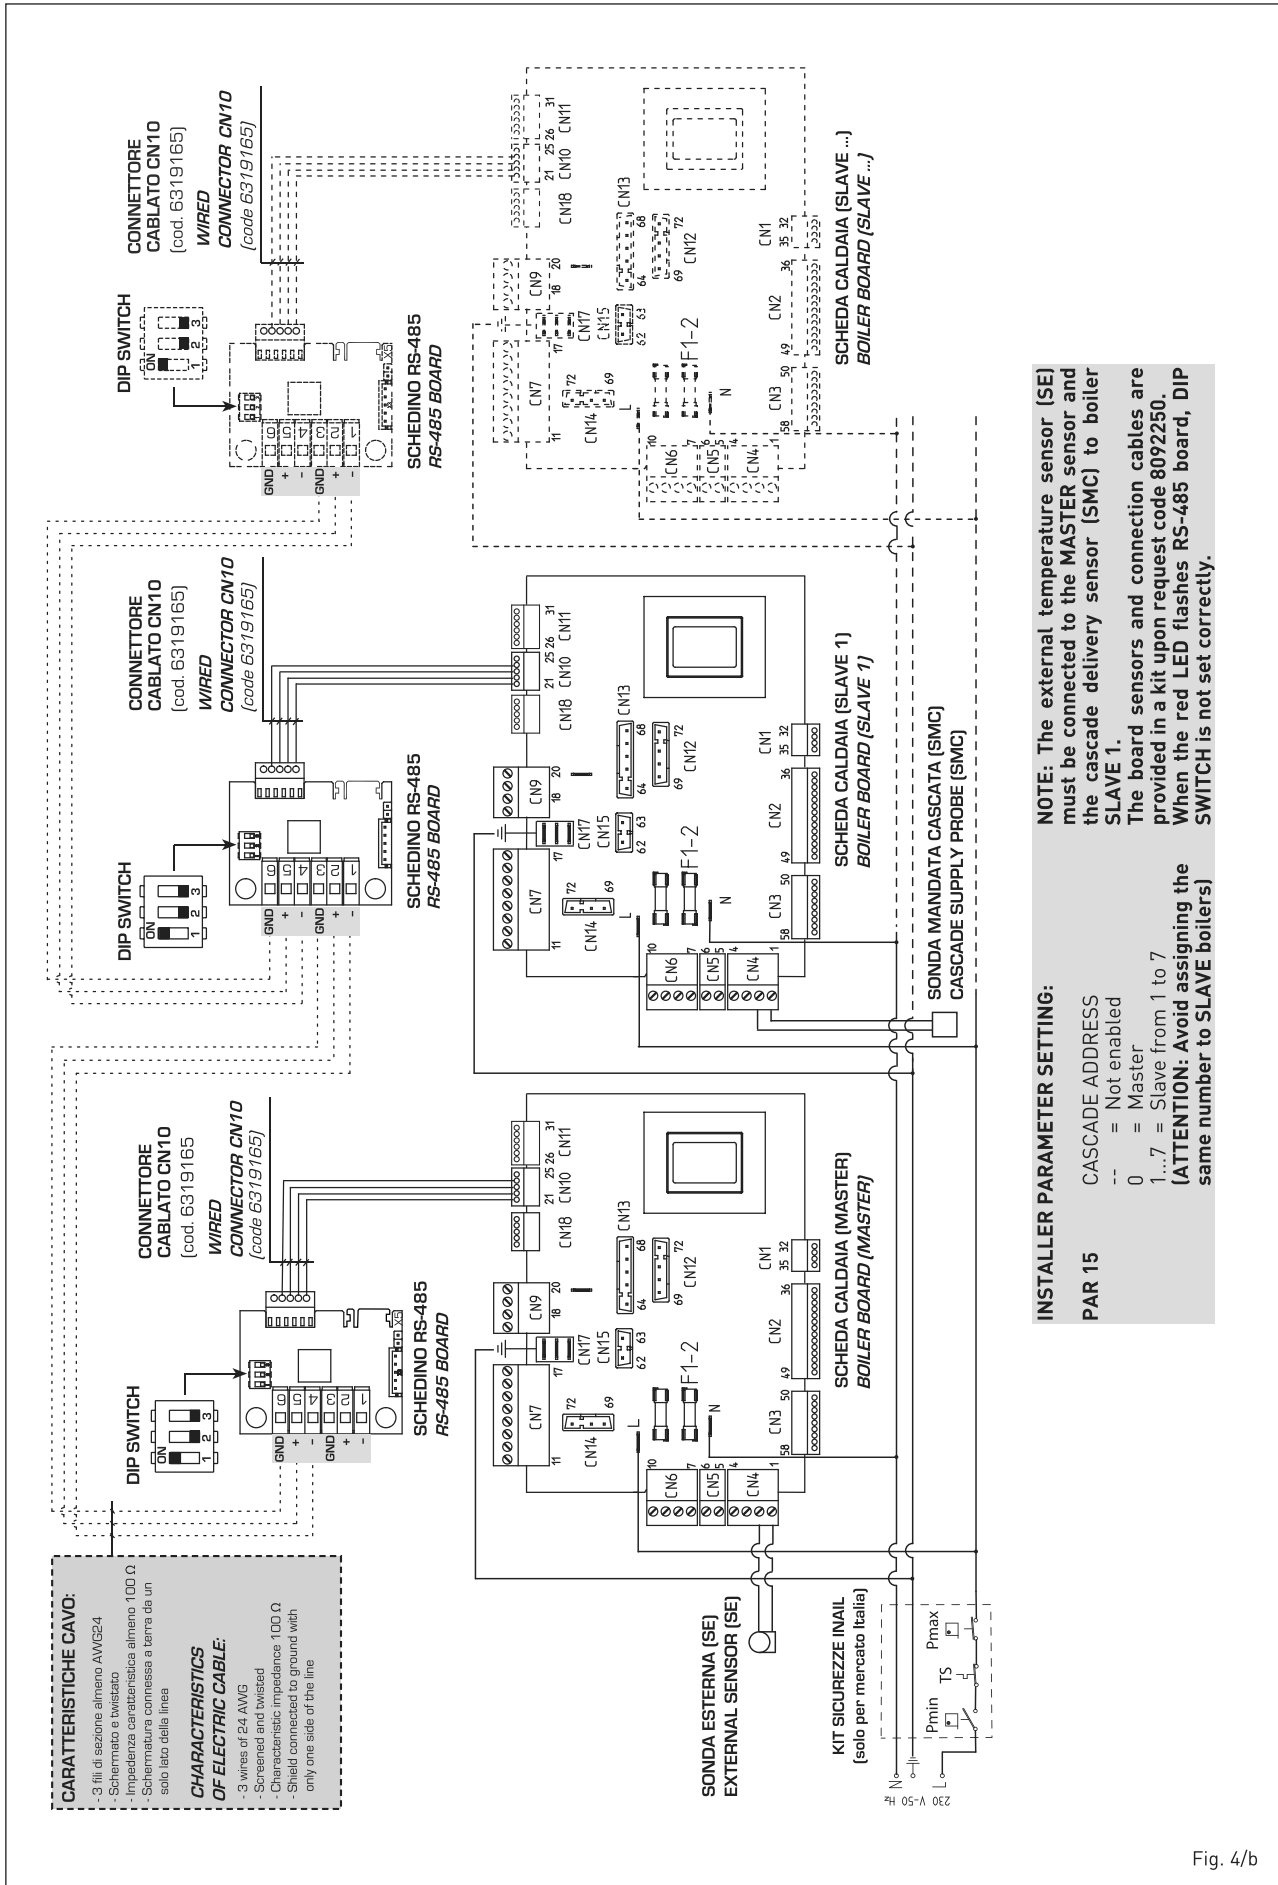

Fig. 4/b
2.1.1 Single boiler (fig. 4)
2.1.2 Sequence/cascade boilers (fig. 4/a)
Access the board and chose the desired operating mode (CASCADE or MODBUS) by selecting the DIP SWITCH of the board as indicated in figure 4/a.
CASCADE mode (fig. 4/b)
Electrically connect all the boilers that form the modular cascade thermal system and set installer parameters PAR 15 on every single boiler as indicated in fig. 4/b.
MODBUS mode (fig. 4/c)
CASCADE+MODBUS mode (fig. 4/d)